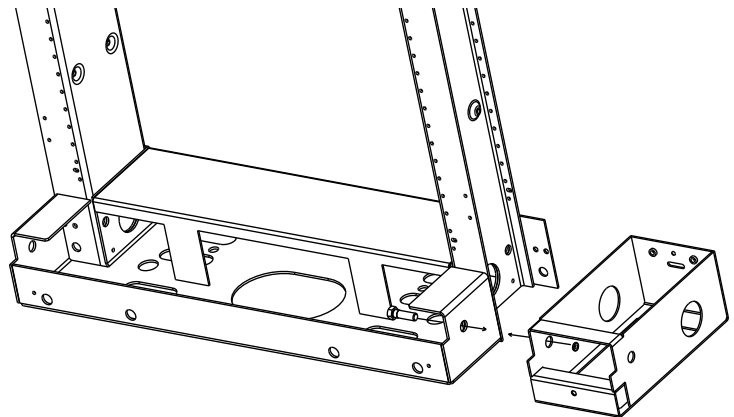

Figure 4
**Step 3:** Use the 3/8-in hardware (galvanized hex nut and hex bolt) to attach the foot caps together (Figure 4).